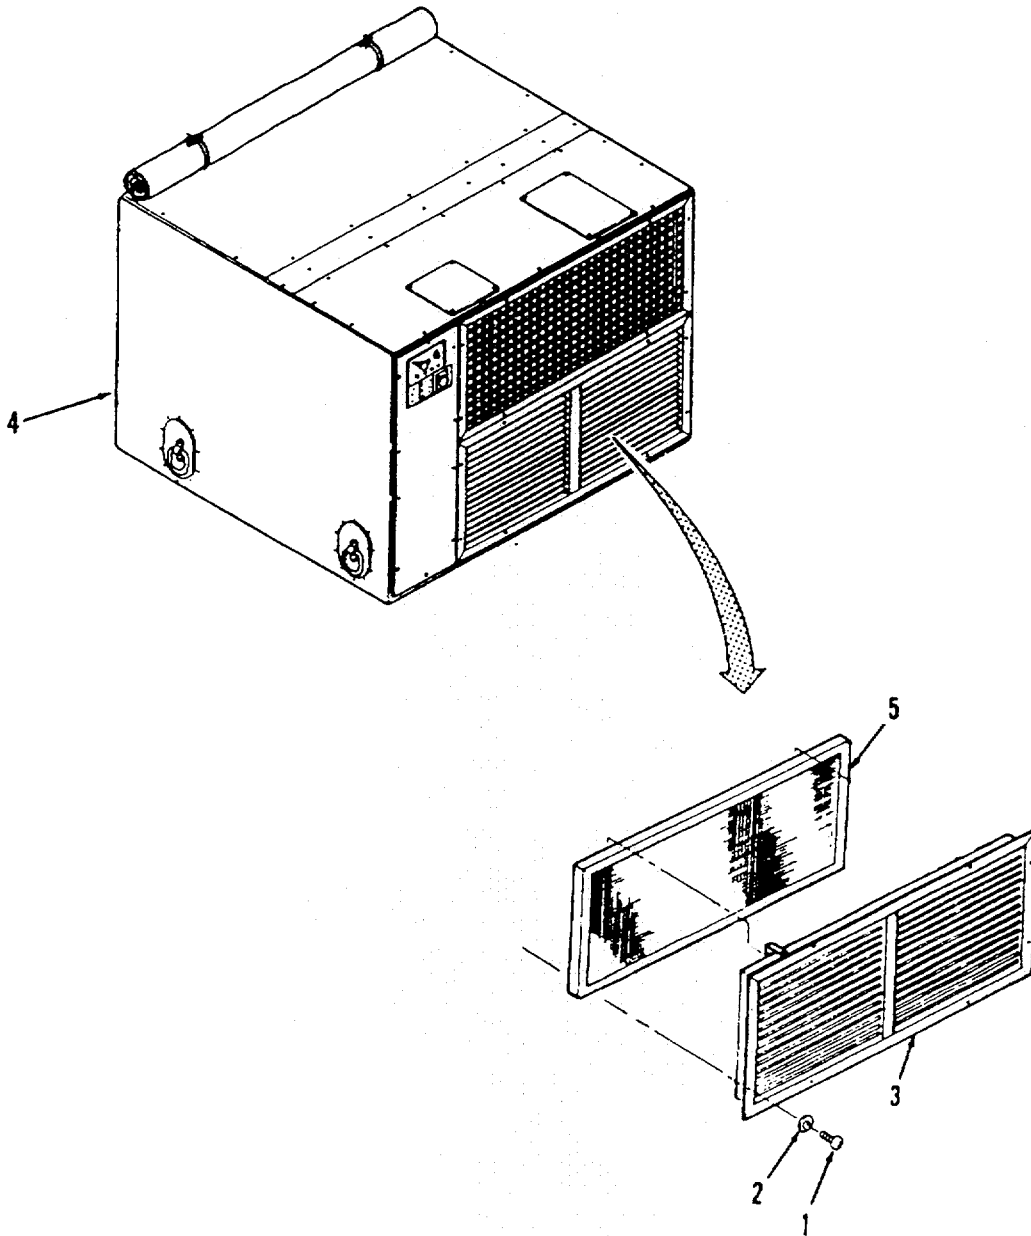

Figure 3-13. Filter, Air Conditioning.
**a. Removal.** (Refer to Figure 3-13).
- (1) Remove eight screws (1), eight lock washers (2), and return air louver (3) from unit (4).
- (2) Remove air conditioning filter (5) from return air louver (3).